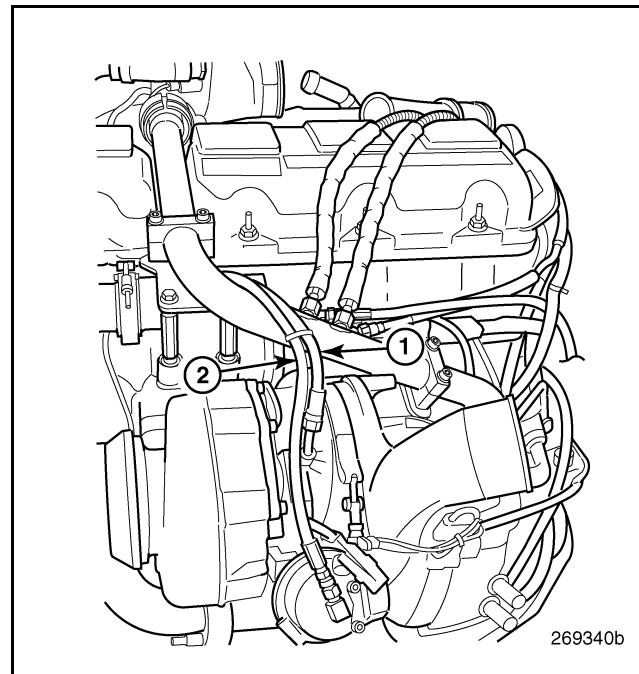

Figure 134 — Oil Supply and Air Lines
- Disconnect the turbocharger oil supply line and the air line to the VTG actuator at the turbocharger (Figure 134). Plug the fittings to keep dirt and debris out.